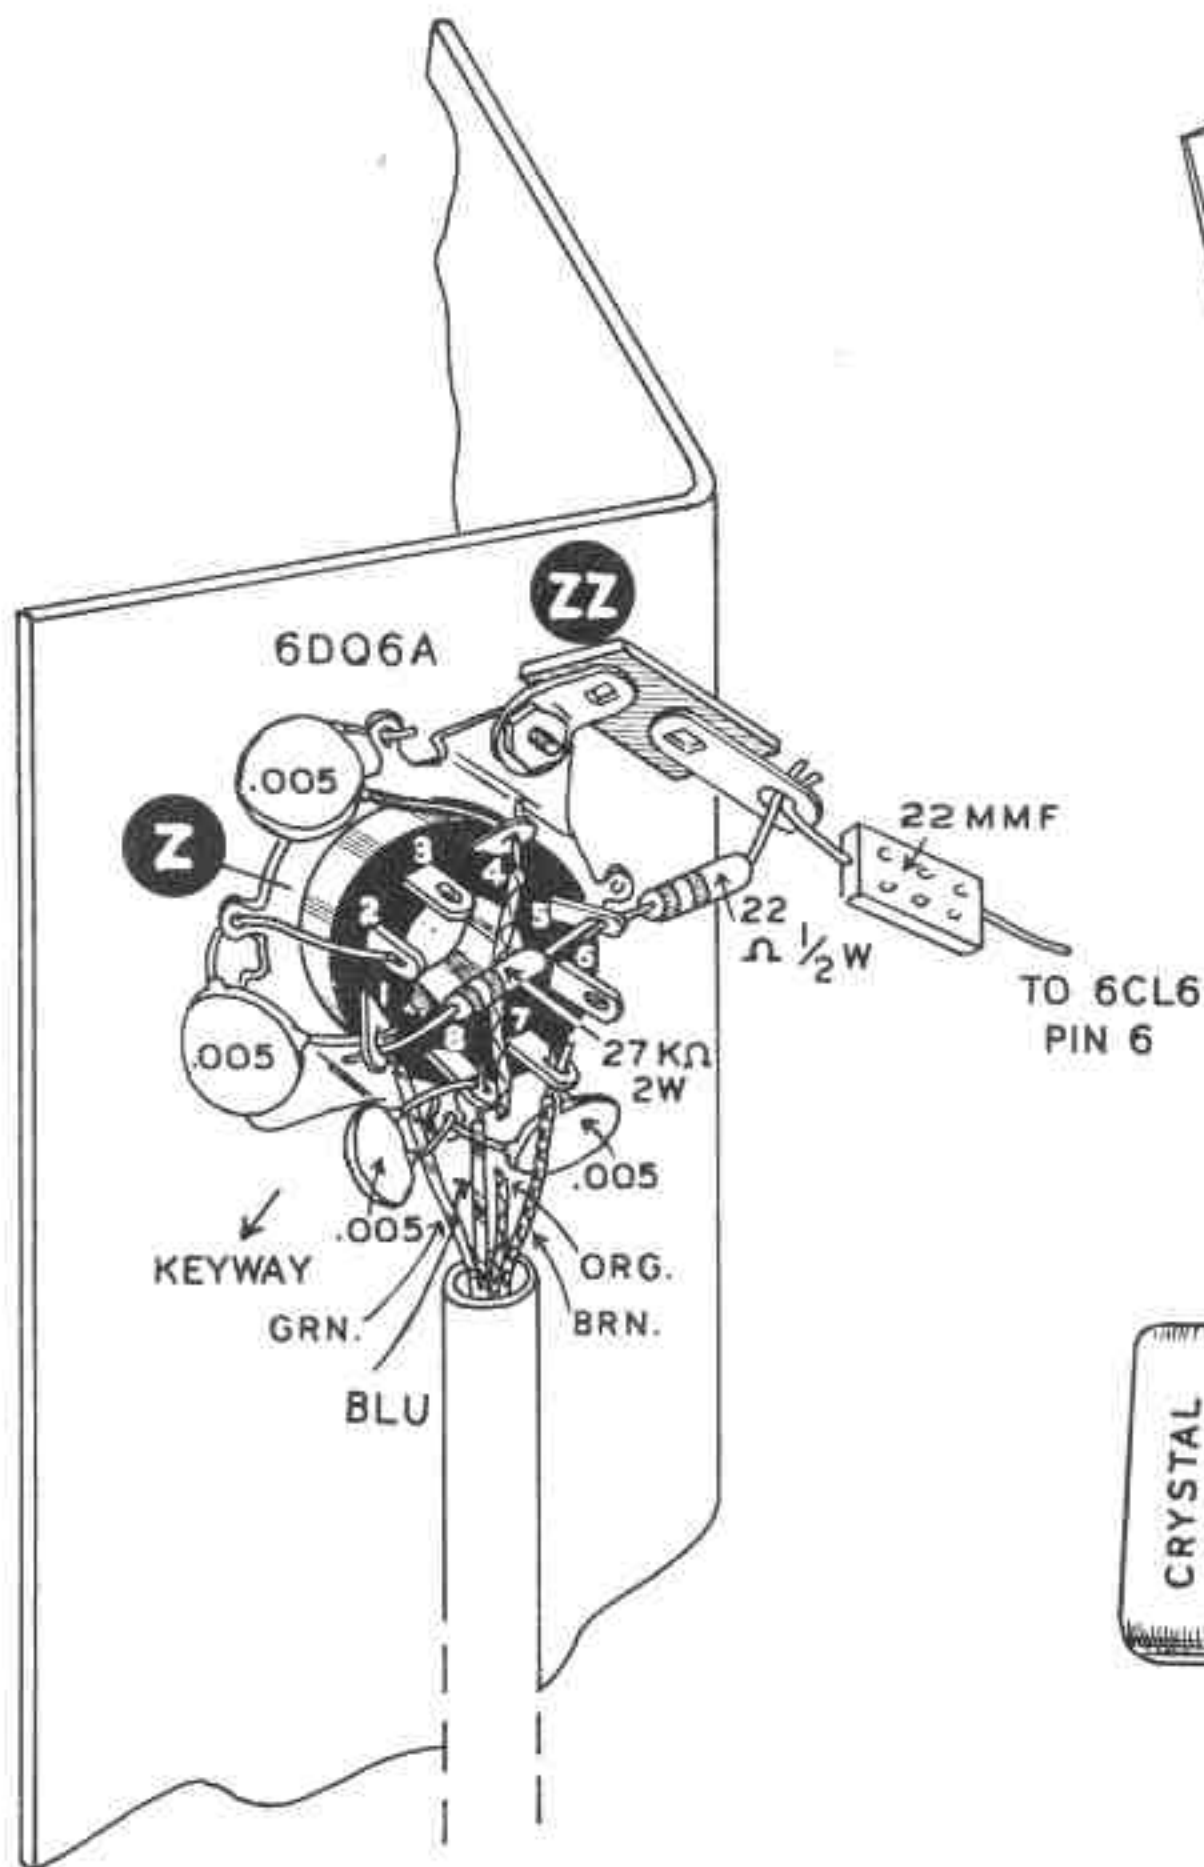

Figure 9
- () Mount the octal socket for the 6DQ6A final amplifier at position Z and the single tie point strip at position ZZ. Use 6 - 32 x 3/8" screws. Orient the keyway to face downward. Hold the socket against the outside of the shield plate and at the upper socket mounting hole insert the screw through the shield, then through the tube socket, then through the foot of the tie strip ZZ, a #6 lockwasher and secure with a 6 - 32 nut. NOTE: With some tube sockets it may be necessary to clip or file a piece off the foot of the tie strip to mount it properly. See Figure 9.